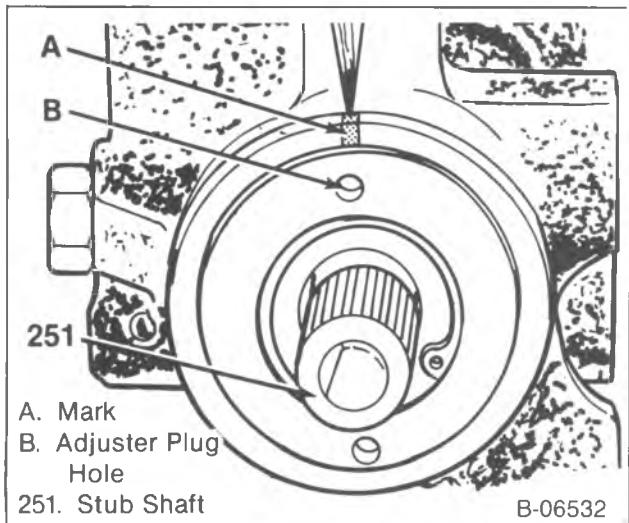

Figure 17—Marking the Housing
- Mark the housing in line with one of the holes in the adjuster plug (figure 17).